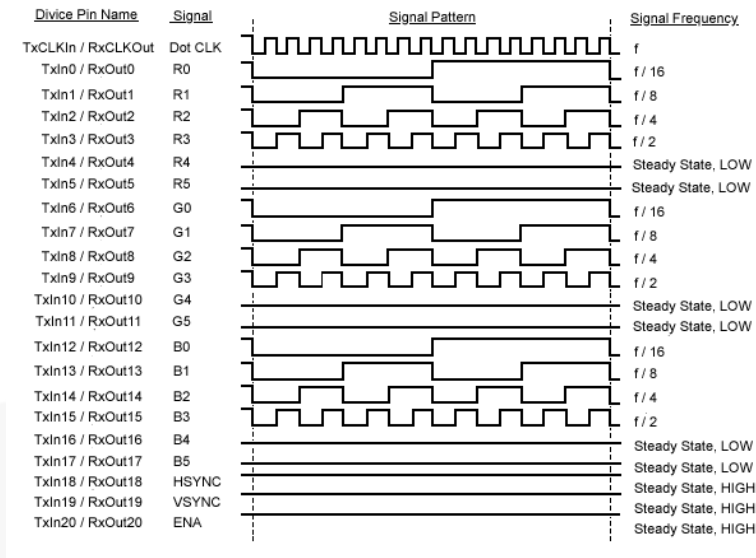

**Figure 24. Timing Diagram of Transmitter Clock Input with Jitter**
25. Test setup considers no requirement for separation of RMS and deterministic jitter. Other hardware setups, such as Wavecrest boxes, can be used if no M1 software is available, but the test methodology in Figure 24 should be followed.